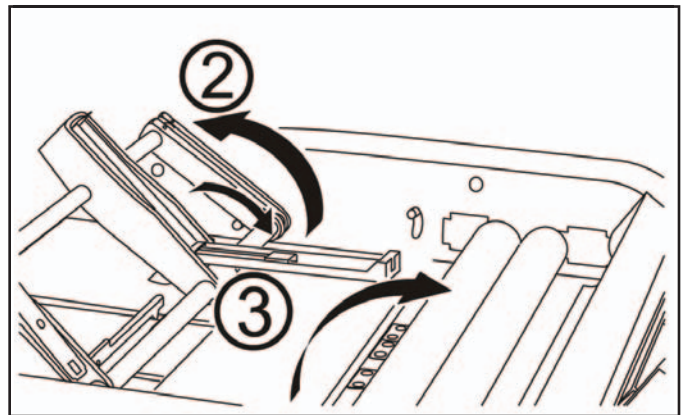

Fig. 2
3. Open the cassette from the stapler head and load staples (fig. 2).